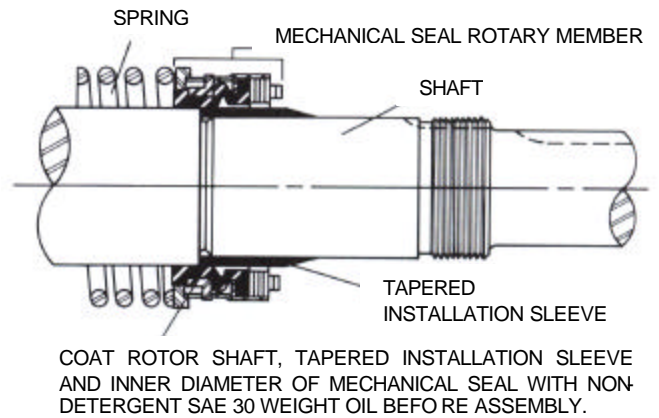

FIGURE 10
6. Place tapered installation sleeve on shaft, refer to Figure 10. Sleeve is furnished with H, HL, K, KK, L, LO and LL size replacement mechanical seals. Coat rotor shaft, tapered installation sleeve and inner diameter of mechanical seal rotary member with a generous amount of non-detergent SAE 30 weight oil. Petrolatum may be used but grease is not recommended.
7. Slide spring over shaft into seal chamber on set collar pilot. Place tapered installation sleeve on shaft. Refer to Figure 10.